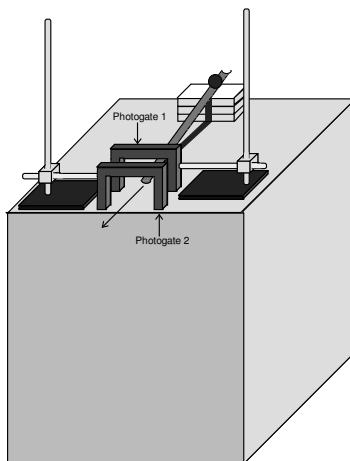

Figure 1
1. Set up a low ramp made of angle molding on a table so that a ball can roll down the ramp, across a short section of table, and off the table edge as shown in Figure 1.